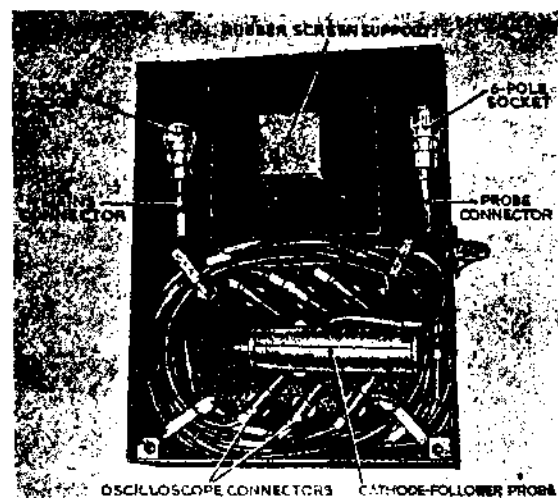

Fig. 3.
- (1) From its storage position inside the front cover remove the probe assembly with its connector and 6-pole free socket (see fig. 3).
- (2) Remove the cap from the fixed plug marked PROBE on the front panel, and plug in the connector.
- (3) Wait one minute for the probe valve heater to warm up.
- (4) Disconnect any external circuit connected to Y1 socket.
- (5) Turn the Y PLATE SELECTOR to the AC position.
- (6) Turn the PROBE SELECTOR to Y1 position.
- (7) Now use the metal prod on the probe assembly as an ordinary test prod for circuit investigation.